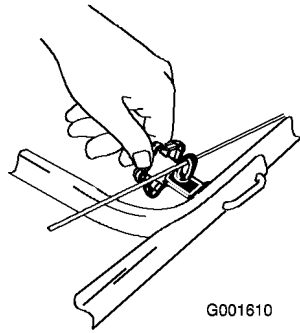

Figure 5
4. Install the handle bolts, set the cable guide in position, and tighten the knobs until they are snug (Figure 5).